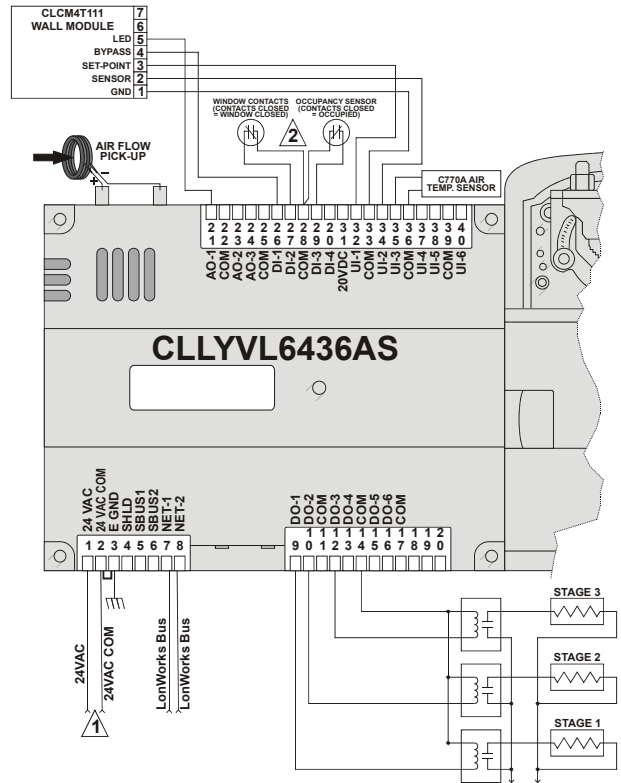

Fig. 16. Controller wiring diagram (CCLLYVL6436AS shown) for typical VAV application with staged reheat
- Typical controller wiring for VAV application with staged reheat (see Fig. 16).